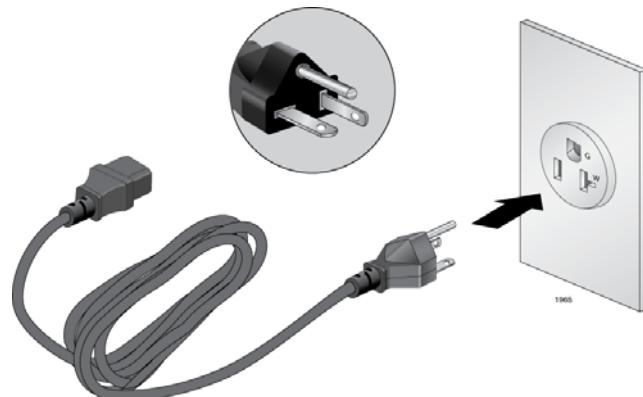

Figure 28. 100 - 125 VAC 125 V NEMA 5-20 Plug and Receptacle
- The power cords provided with the AT-SBxPWRSYS1 and AT-SBxPWRPOE1 Power Supplies for 100-125 VAC installations have 20 Amp, 125 V NEMA 5-20P plugs. The plugs are only compatible with NEMA 5-20R receptacles. See Figure 28 on page 69.